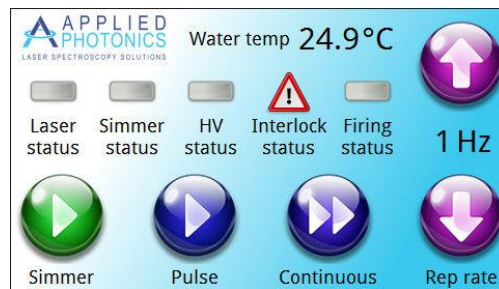

Figure 6: Laser remote control unit screen on system power-up
- The laser remote control unit will display the **Laser status** as off (grey) and **Interlock status** as activated (red warning triangle) as key switch has not been activated (see Figure 6 below).
- Test the operation of the E-Stop switch on the laser power supply and the one on the laser remote control unit. When either emergency stop is activated the laser remote control unit displays **Interlock status** activated (i.e. warning triangle symbol as shown in Figure 6 above) and a warning buzzer will sound until the emergency stop is reset. Note that there is no red indicator lamp with either of these two E-Stop switches.